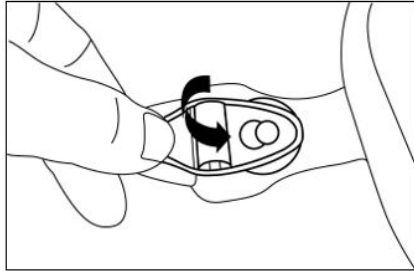

Fig.20
1. Remove existing head harness by unsnapping each buckle from the buttons (Fig. 20).